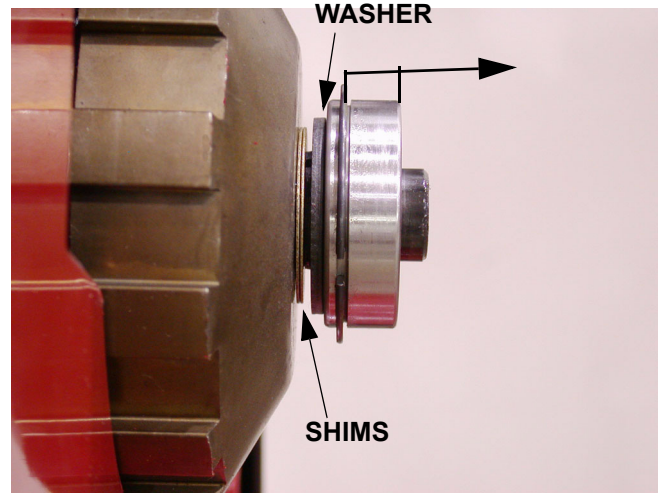

Figure 12.13
- 12.13. When installing the bearing remember that the wide side faces outward. See Figure 12.13.